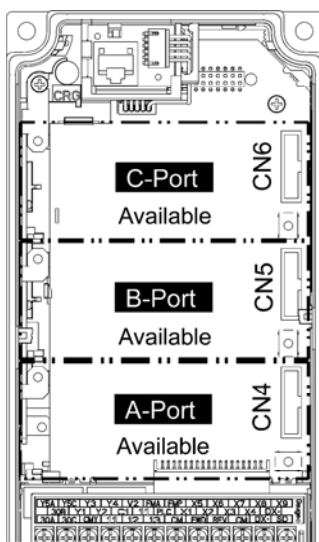

Figure 5: Option Port Locations on 0.4 kW Inverter
1. Remove the front cover from the inverter to expose the control printed circuit board (control PCB). As shown in Figure 5, there are three option connection ports (A-port, B-port and C-port). The OPC-G1-ETH card is mechanically keyed for, and can only be installed into, the A-port (bottom-most) position.